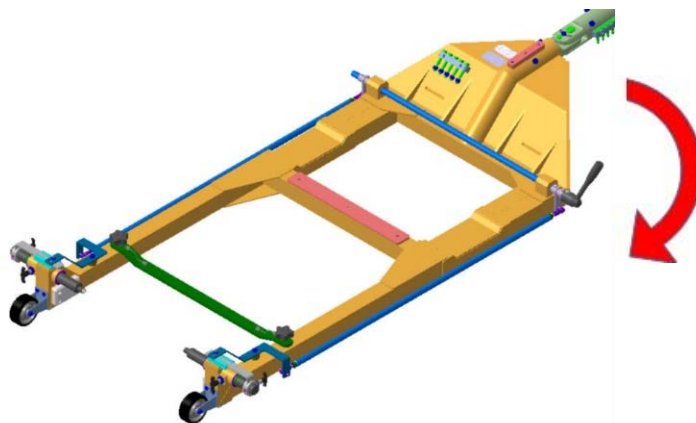

Figure 21: Handle rotation
- Align the coupling shafts axes to the landing gear towing eyes: in this position rotate the actuation handle placed in the right side of the tow bar assy until the coupling shafts are in working position (see Figure 21).